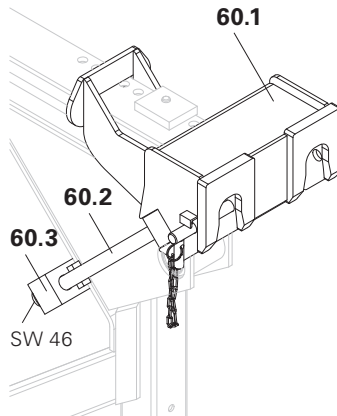

Fig. F2.06
4. Push Holder onto the threaded rod and secure with nuts to the Brace Frame. (Fig. F2.06)